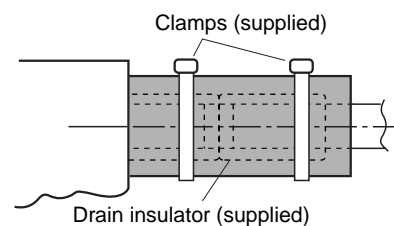

Fig. 3-89
- (2) After connecting the drain piping securely, wrap the supplied packing and drain pipe insulator around the pipe, then secure it with the supplied clamps. (Fig. 3-89)